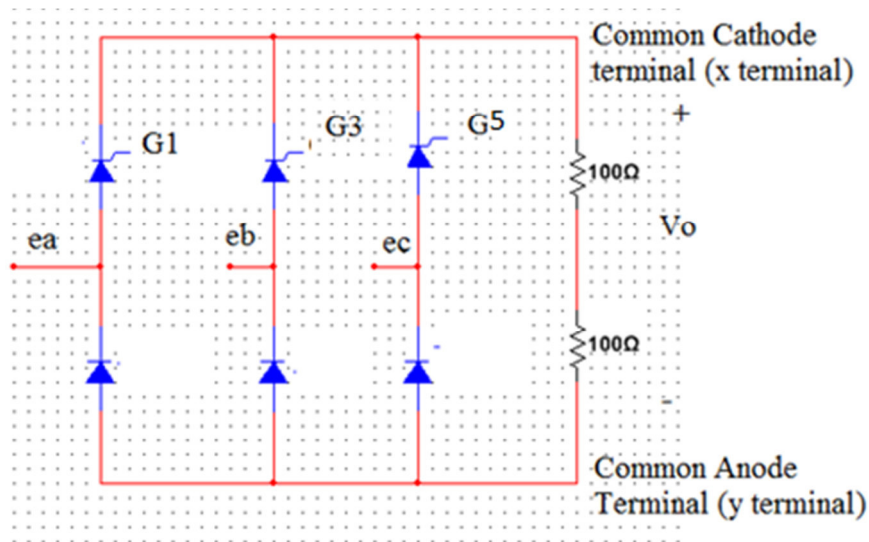

Figure 8.5: Three Phase Half Controlled Bridge Rectifier
- Implement the rectifier circuit shown in Figure 8.5 on breadboard. The gate terminals of SCR are connected with (G1, G3 and G5 respectively) terminals of firing circuitry. One end of the series connected two load resistors (100 Ω/ 10 Watt) is attached with common cathode terminal while the other end with common anode terminal. Remember the